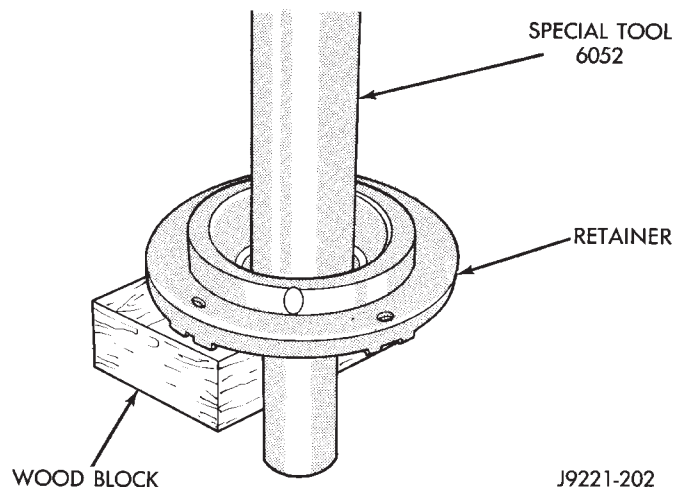
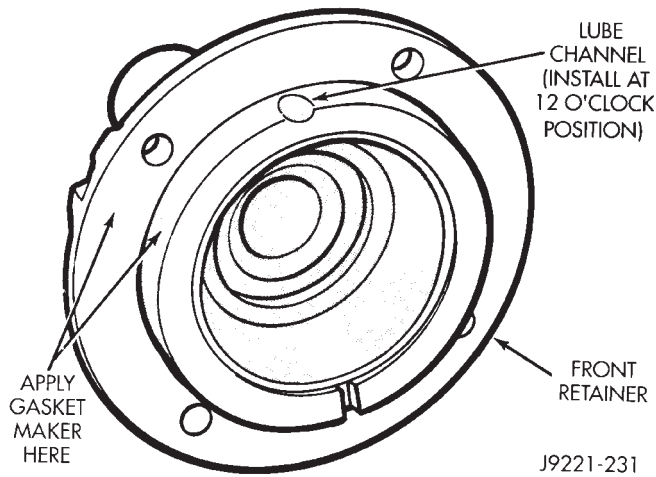

Fig. 125 Installing Bearing Retainer Oil Seal
Fig. 126 Location Of Front Retainer Lube Channel
(5) Install new oil seal in front bearing retainer with Tool 6052 (Fig. 125). Use one or two wood blocks to support retainer as shown. Lubricate seal lip with petroleum jelly after installation.
(6) Clean contact surfaces of gear case and front bearing retainer with a wax and grease remover.
(7) Apply Mopar® Gasket Maker to flange surface of front bearing retainer (Fig. 126).
(9) Start front bearing retainer in gear case. Verify that retainer lube channel is at top-center (12 O'clock) position (Fig. 126). Adjust retainer position before proceeding, if necessary.